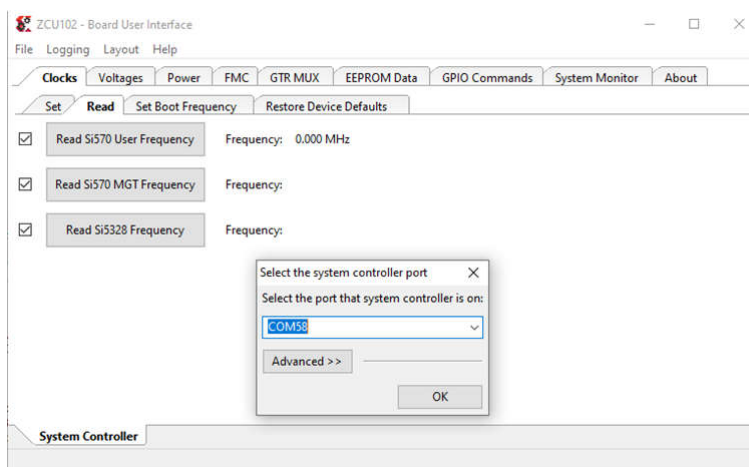

Figure 14-1. ZCU102 Board User Interface
2. Select the appropriate COM Port to enable communication between the onboard MSP430 of the ZCU102 and the PC. This software is required to turn on the FMC_AUX supply of 1.8V for the FMC bank of FPGA (see Figure 14-1).